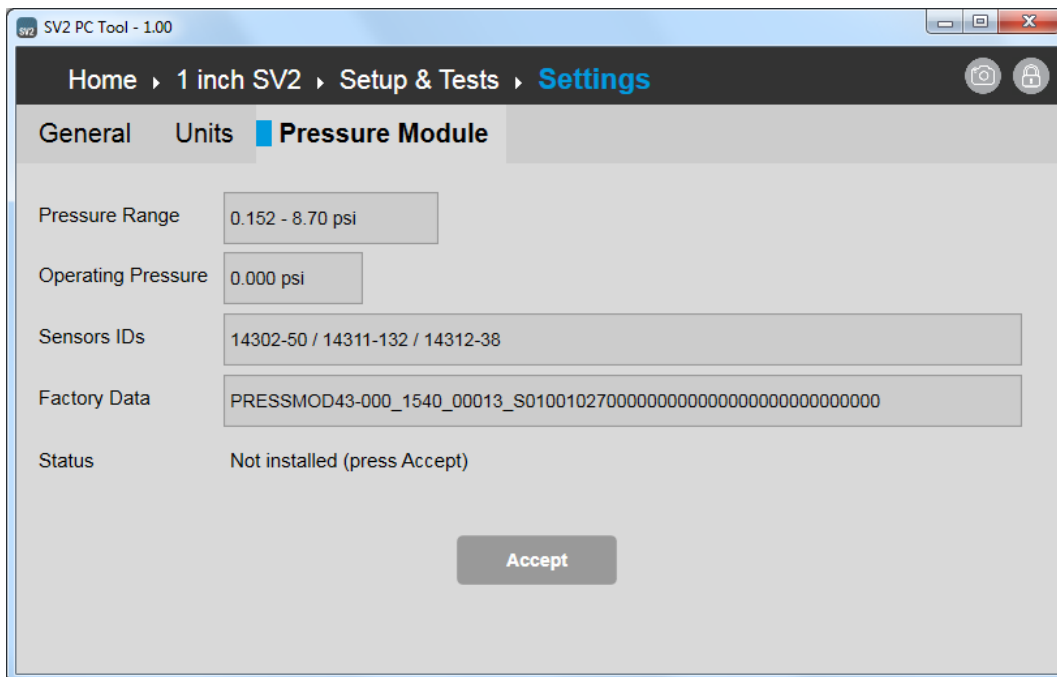

Fig. 37. Setup & Tests – Settings: Pressure Module.
**Pressure Module** Provides access to Pressure Module information and acceptance. Refer to Fig. 37.
From the Settings page (Refer to Fig. 37.), select **Setup & Tests**.